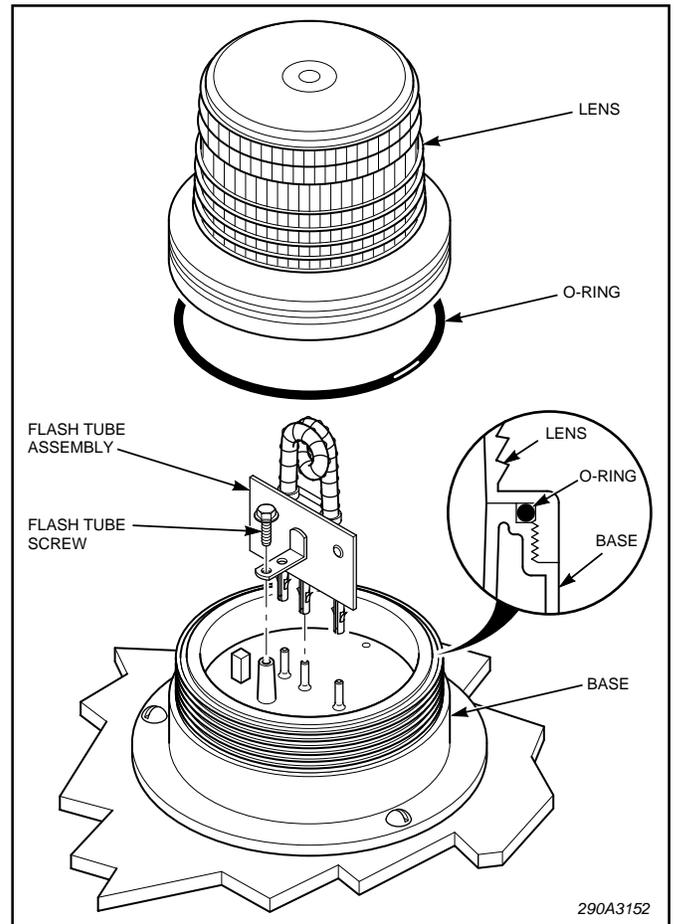

Figure 4.
D. Grasp the flash tube by its printed circuit board and pull it off of the pins, using a gentle "rocking" motion. See figure 4. Install a new flash tube. Secure the flash tube assembly to the base using the previously removed screw. Ensure that the O-ring seal rests flat on the base (see figure 4) and reassemble the light.